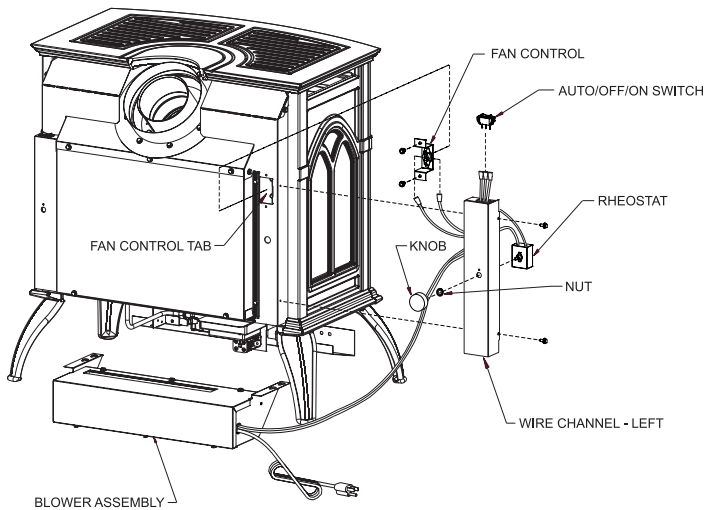

Figure 38
4. Remove wire channel-left from appliance by removing 10 x 1/2" screws on left side of the appliance. **NOTE:** Some units require a new wire channel. If Rheostat mounting holes are missing from part removed from unit, discard wire channel removed from unit and continue installation with appropriate wire channel shipped with blower. **See Figure 38.**